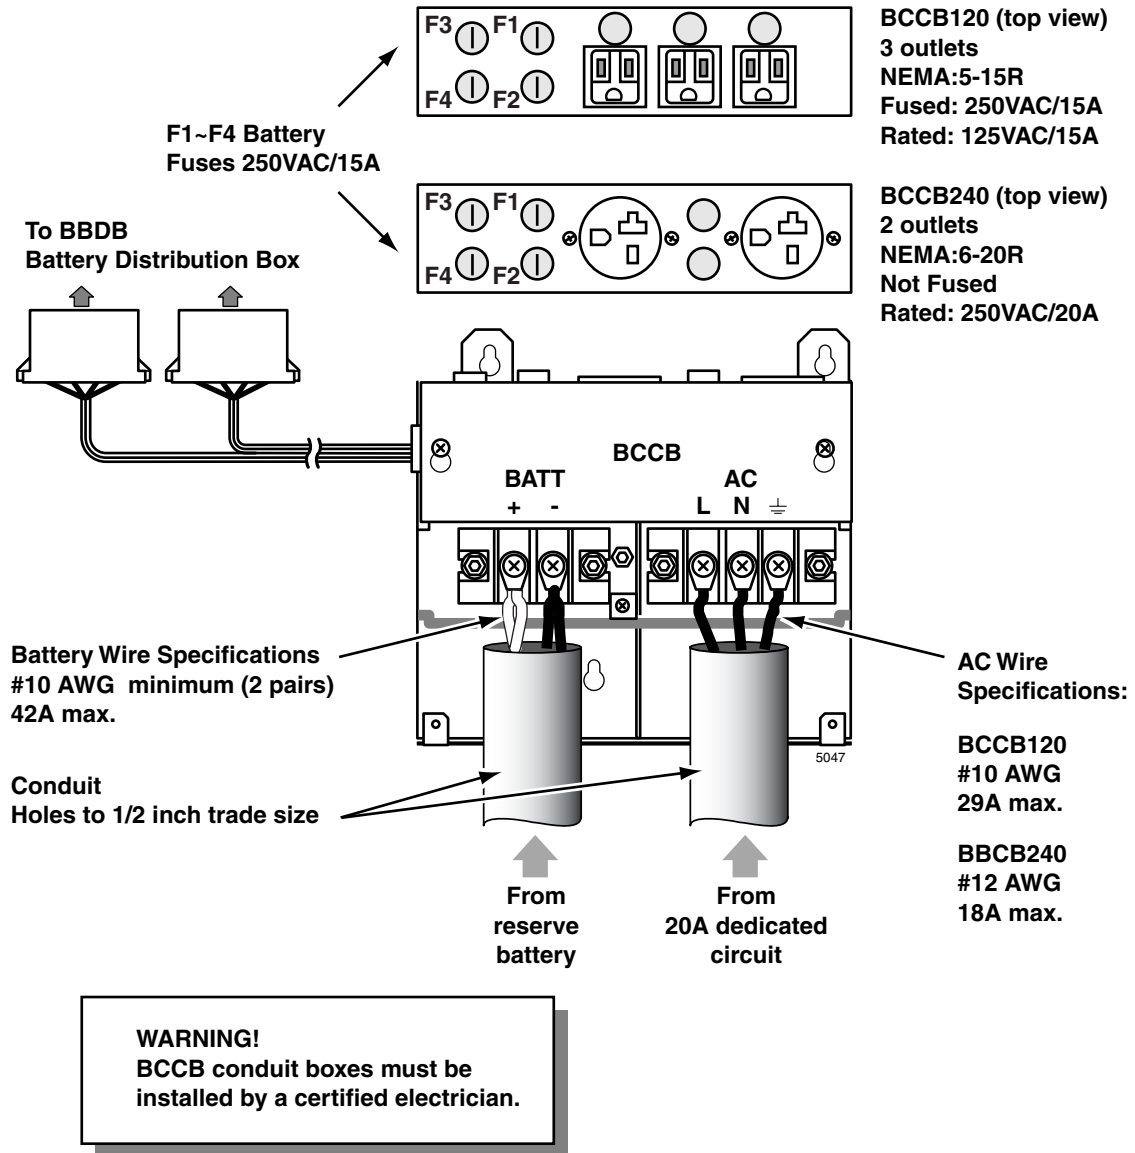

Figure 4-25 BCCB AC Power and Battery Connections
1. A BCCB240 conduit connection box must be installed and wired by a certified electrician per the local electrical code (see Figure 4-25).
- When floor mounting the CTX670, the batteries must be installed by a licensed electrician per local electric code using conduit. (See Figure 4-25.)
2. Have a licensed electrician install conduit and battery cabling to the Conduit Connection Box per local electrical codes. The remaining steps in this procedure can be performed by the regular system installer (see Figure 4-25).